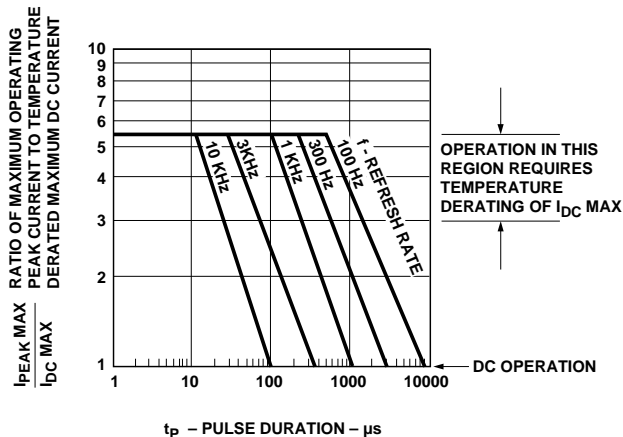

Figure 2. Maximum Tolerable Peak Current vs. Pulse Duration - AlGaAs Red.
- See Figure 2 to establish pulsed operating conditions. Maximum pulse width is 1.5 ms.